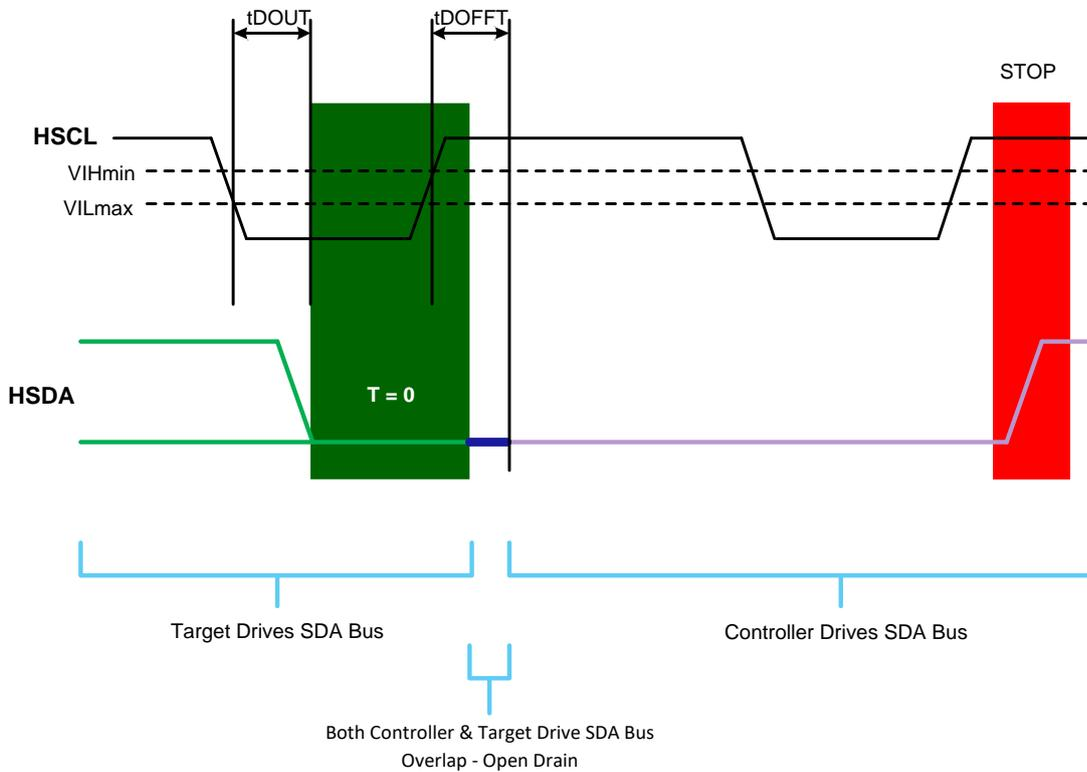

Figure 12. $T = 0$; Target Ends Read; Host Generates STOP
6. See Figure 12 to see how Target device ends the operation followed by Host STOP operation.